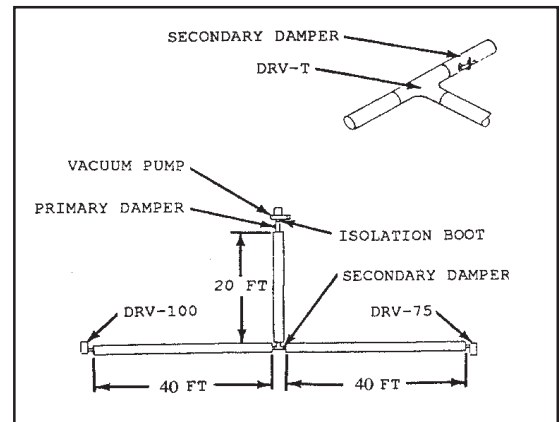

Figure 2.4
- A system containing two DRV-75 burners with unequal lengths of radiant tube running to the vacuum pump from each burner. This system requires a primary damper at the vacuum pump and a secondary damper before the tee (DRV-T) on the shorter tube length as shown in Figure 2.4.